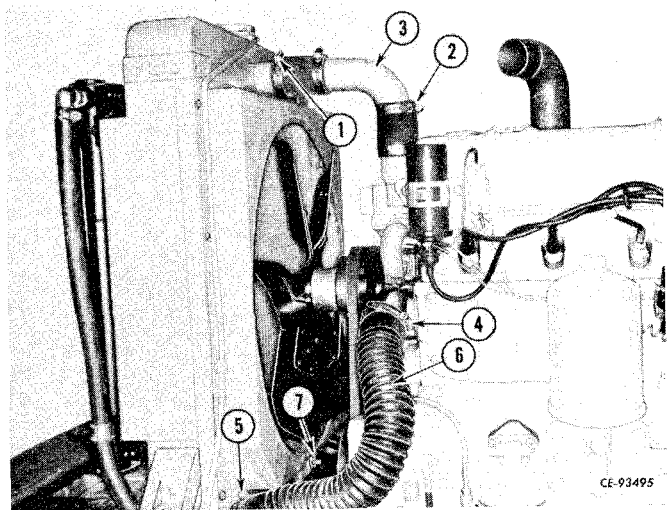

Figure 2-7
Drain radiator by opening pet cock (7, Fig. 2-7). Loosen radiator cap during draining. Loosen hose clamps (1, 2) and remove tube assembly (3). Loosen hose clamps (4, 5) and remove hose (6).
Install tube assembly (3, Fig. 2-7) and tighten hose clamps (1, 2). Install hose (6) and tighten hose clamps (4, 5). Close radiator pet cock (7).